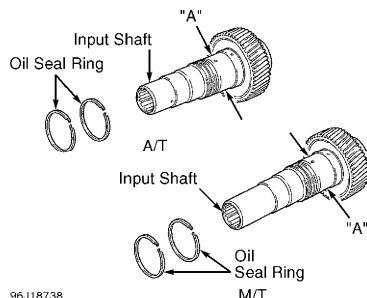

Fig. 10: Identifying Input Shaft Measuring Points & Components
1) Visually inspect input shaft for grooves, damaged gear teeth and worn bearing journals. Remove 2 oil seal rings. Measure front bearing journal as indicated in figure. See Fig. 10. See INPUT SHAFT SPECIFICATIONS table. Using dial indicator, measure inside diameter of input shaft bushing at rear of input shaft. Replace input shaft if not within specifications or if it is damaged. Clean and inspect grooves. Reinstall rings. Ensure rings rotate smoothly.